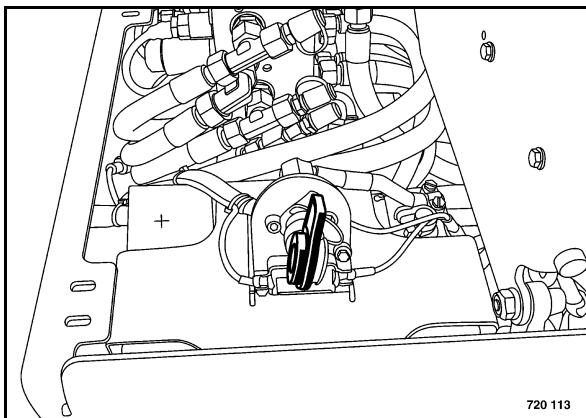

Fig. 67
- Switch off and pull out main battery switch 1 (Fig. 67).
If the power pack of the remote control is to be recharged via the remote control cable, the main battery switch (Fig. 67) must be switched on.